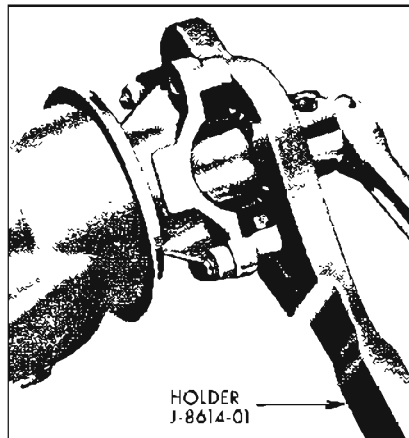

Figure 6-14—Removing Pinion Nut
2. Install holder J-8614-01 on pinion flange by using two 5/16-18 x 2 bolts with flat washers. Remove pinion nut and washer. See Figure 6-14.